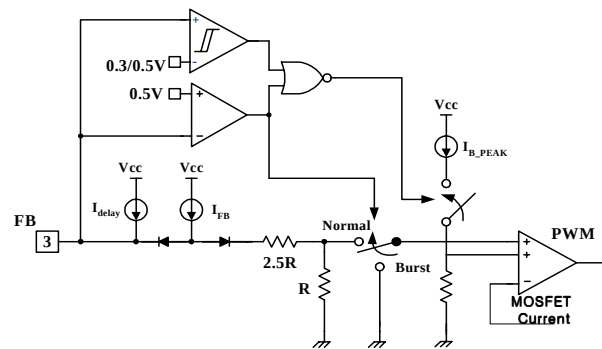

Figure 8. Circuit for Burst operation
5. Soft Start : The FPS has an internal soft start circuit that increases the feedback voltage together with the Sense FET current slowly after it starts up. The typical soft start time is 14msec, as shown in figure 8, where progressive increments of Sense FET current are allowed during the start-up phase. The pulse width to the power switching device is progressively increased to establish the correct working conditions for transformers, inductors, and capacitors. The voltage on the output capacitors is progressively increased with the intention of smoothly establishing the required output voltage.